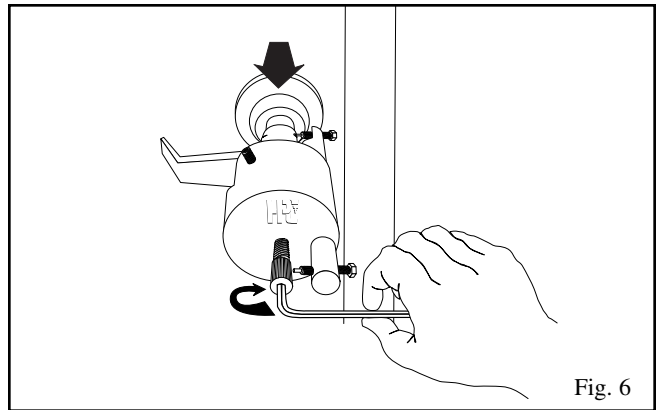

Fig. 6
6. Slowly turn the Drive Bolt to begin pulling the lever handle away from the lock body, approximately 1/16" to 1/8" (see fig. 6).